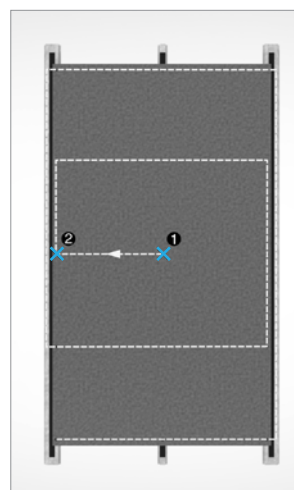

Figure 18.
- When installing Genesis Signature, begin with the two fixed points (1 then 2), followed by the remaining gliding points above the fixing positions and finally the gliding points below. (see Figure 18)